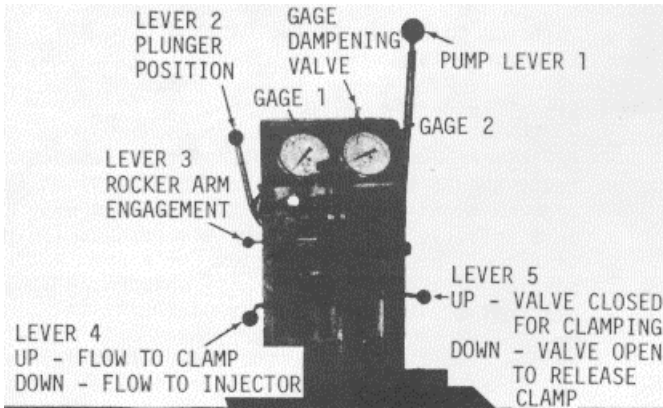

Fig. 13 Injector in Position for Testing with Tester J 23010
- (1) Refer to Fig. 13 and position the injector tester levers as follows:
- (2) Align the clamping head nylon seals over the injector filter caps.
- (3) Back off the Thru-Flow valve about halfway to allow the self-aligning nylon seals to seat properly during the clamping operation
- (4) Hold the clamping head in position over the filter caps and, with the left hand, operate pump lever 1 evenly to move the clamping head down to seal the filter caps.
- (1) Move lever 4 down and operate pump lever 1 with even strokes (Fig. 13).
- (2) Note the pressure at which the needle valve opens on gage 1. The valve should open between 2300 and 3200 psi. The opening and closing action should be sharp and produce a normal, finely atomized spray pattern.